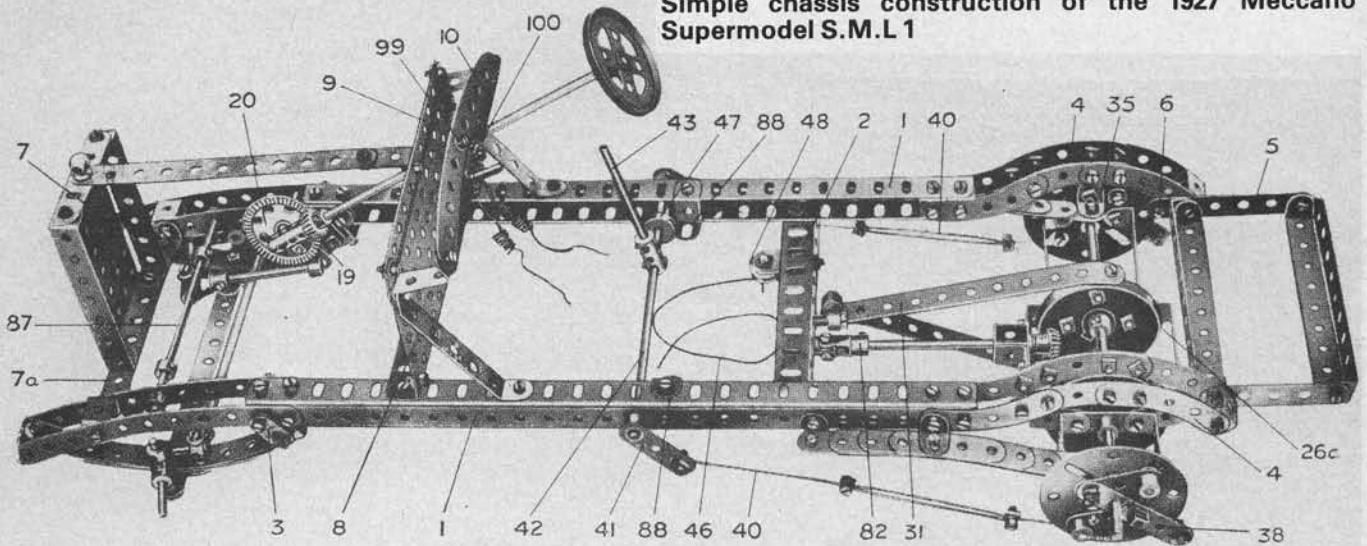

Fig. 2 Bare outline of the Meccano chassis for Supermodel No. 1 "The Meccano Motor Chassis," circa 1927. Note internal expanding brakes on rear axle .
Basic requirements of a motor car are really quite few and may be summed up by providing a suitable receptacle for passengers, mounted on three or more wheels, a means to start the vehicle moving, a motor to keep it going, a steering system to alter its direction and a means of bringing the vehicle to rest. In automotive engineering these requirements used to be met, very simply, by a 'utility' chassis having little more than the needs outlined above and typified by the Meccano model illustrated here. Just a glance at Fig. 2 shows how stark the outlines of motor chassis were in the first quarter of the 20th century. This reproduction (courtesy Meccano Ltd.), of a page from the Meccano Supermodel Leaflet of 1927 in the author's collection, show the first stages of building S.M.L. No. 1, The Meccano Motor Chassis. Full instructions for the original model were published in the leaflet and it is not the intention of this article to reproduce those
instructions here. However, the basic points will be covered and we will start with a brief description of the framework. Referring again to Fig. 2, side members of the chassis (1) are pairs of 12½" Angle Girders bolted in channel section and extended by parallel sets of Curved Strips at either end as shown. Leaf springs made from varying lengths of Perforated Strips are fitted to the front of the car chassis in swinging shackles made from Fishplates (3) and this form is known as "semi-elliptic" springing. Rear springs have rigid attachments to the side members of the chassis with a rear overhang and this form of springing is known as "cantilever". Such an arrangement was quite typical of the period, especially with heavier vehicles. At either end, 5½" Double Angle Strips space the chassis side members with further reinforcing at strategic points by 5½" Angle Girders as shown in Fig. 2. The 'cradle' at the rear was fitted to hold the 4 volt Meccano Accumulator of 1927 to power the original 4 volt "sideplate" Meccano Electric Motor of the same period. Internal expanding brakes for the rear wheels were also fitted
in this early model and may be seen in Fig. 2. They were very crude, however, relying on the bosses of Cranks sliding in the slots of Faceplates to rub against the inside of Wheel Flanges bolted to the 3" Pulleys with Tyres, acting as road wheels. A 2½" Strip (38) was connected by a pair of Loom Healds to a Crank (41) operated by the handbrake lever (43), the system being duplicated on the far side of the chassis. A small piece of Meccano Spring Cord on the brake 'pads' kept them in the "off" position when the handbrake lever was released.